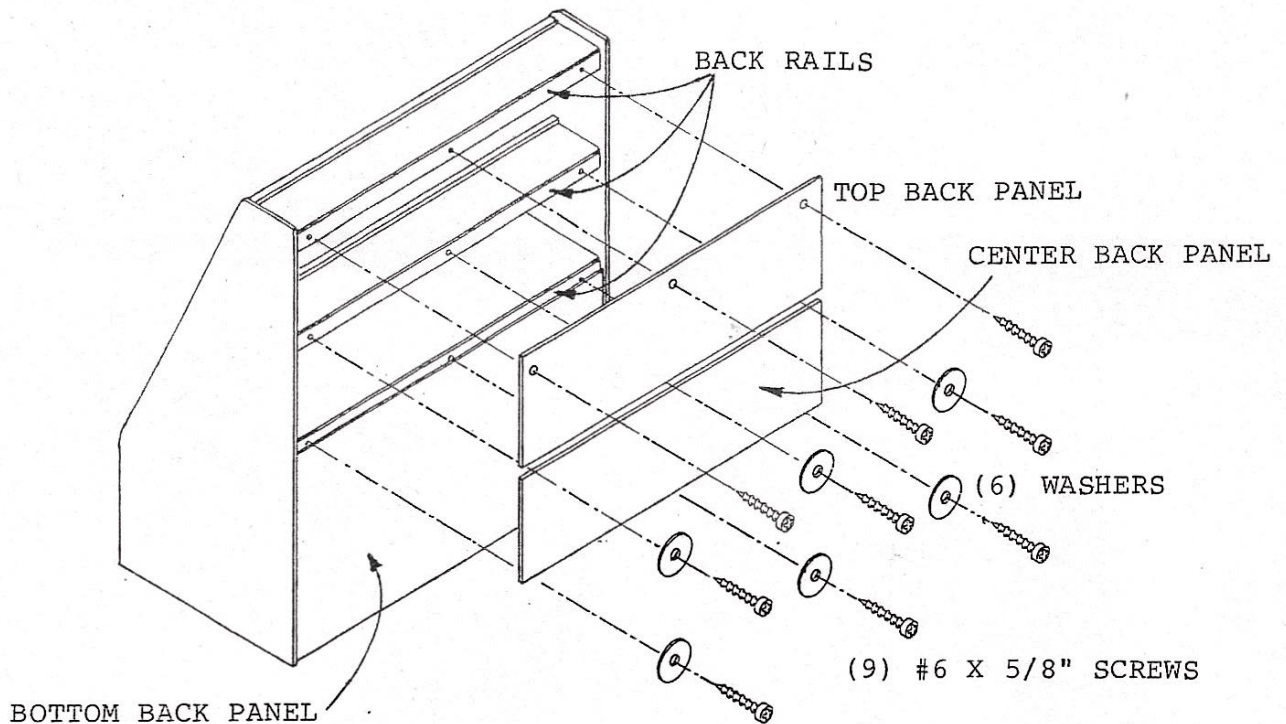

FIGURE 9
STEP 10 FIGURE 9 TOP BACK & CENTER BACK PANELS TO TOY CHEST: